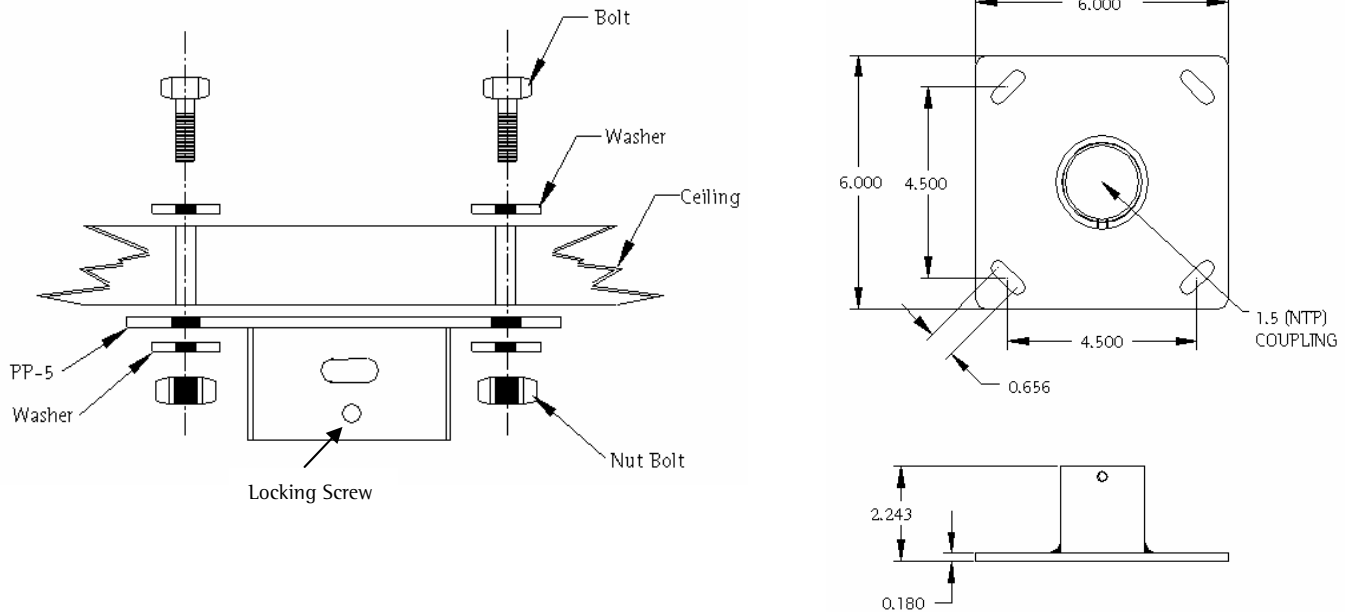

Figure 1
1. Install the PP-5 securely to the ceiling structure in accordance with proper commercial standards. Use suitable hardware depending on the installation requirements (Figure 1).